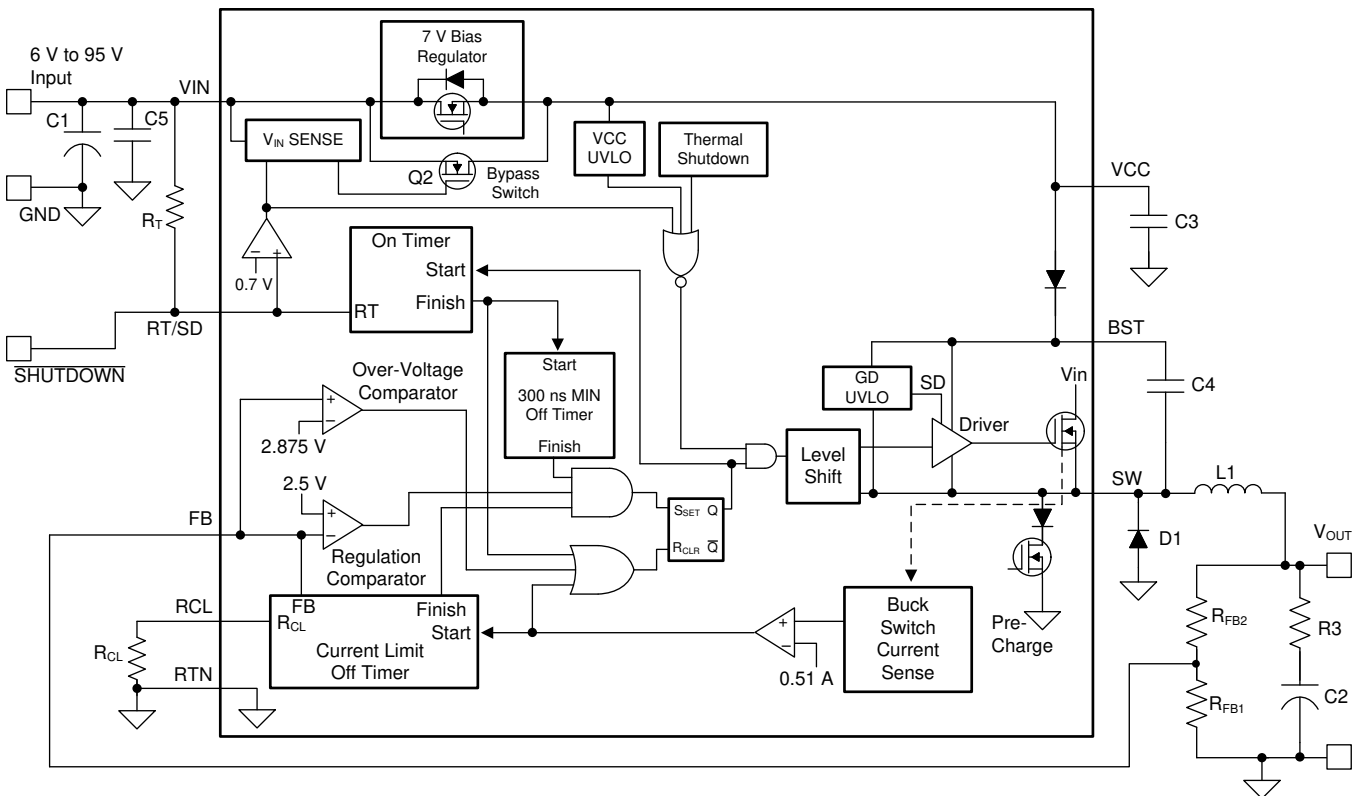

FIG 50. Functional Block Diagram
The output voltage (V_{OUT}) is programmed by two external resistors as shown in 图 50. The regulation point can be calculated with 式 7.
The LM5008A regulates the output voltage based on ripple voltage at the feedback input, requiring a minimum amount of ESR for the output capacitor C2. A minimum of 25 mV to 50 mV of ripple voltage at the feedback pin (FB) is required for the LM5008A. In cases where the capacitor ESR is too small, additional series resistance may be required (R3 in the 图 50).
The high voltage bias regulator is integrated within the LM5008A. The input pin (V_{IN}) can be connected directly to line voltages between 6 V and 95 V, with transient capability to 100 V. Referring to the Figure 50, when V_{IN} is between 6 V and the bypass threshold (nominally 8.5 V), the bypass switch (Q2) is on, and V_{CC} tracks V_{IN} within 100 mV to 150 mV. The bypass switch on-resistance is approximately 100 Ω , with inherent current limiting at approximately 100 mA. When V_{IN} is above the bypass threshold Q2 is turned off, and V_{CC} is regulated at 7 V. The V_{CC} regulator output current is limited at approximately 9.2 mA. When the LM5008A is shut down using the RT/SD pin, the V_{CC} bypass switch is shut off regardless of the voltage at V_{IN} .